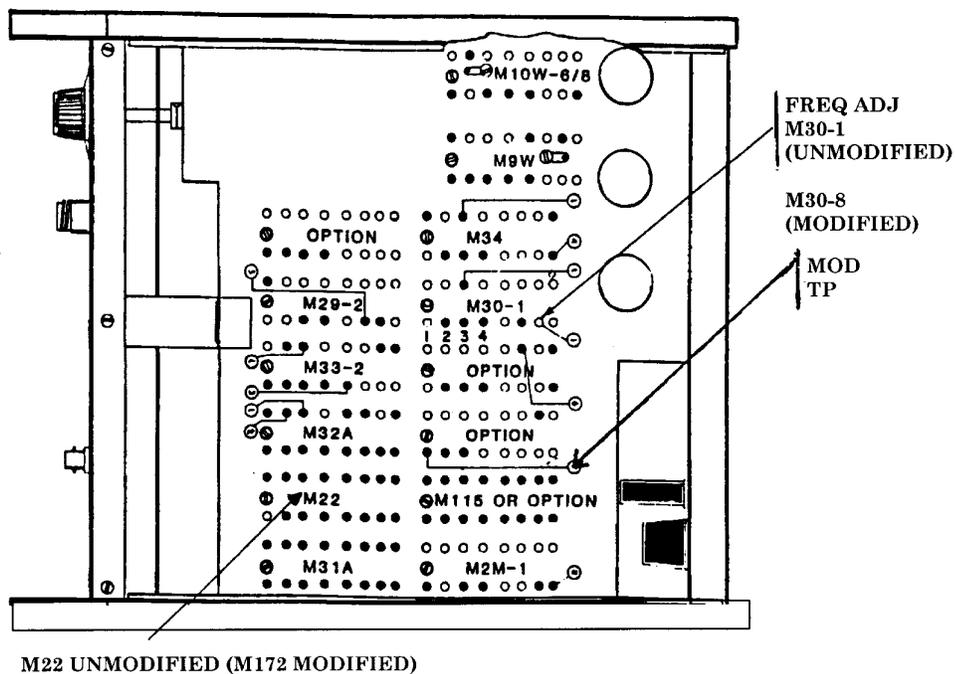

Figure 1. Test instrument - bottom view.
(1) Position TI controls as listed in (a) through (d) below:
(2) Set **FREQUENCY** switches to indicate **500.000 MHz.**
(3) Adjust **FREQ ADJ M30-1 (UNMODIFIED)** (fig. 1) trimmer ccw for minimum frequency indication on frequency counter, then adjust trimmer cw until frequency counter indicates 500.000 MHz (R).
- (5) Connect digital multimeter to MOD TP (fig. 1) and ground.
(7) Set **MODULATION FM/AM** slide control to **0**. The digital multimeter should indicate $0\text{ V} \pm 20\text{ mV}$ dc.
(8) Disconnect the digital multimeter from MOD TP (fig. 1) and ground.